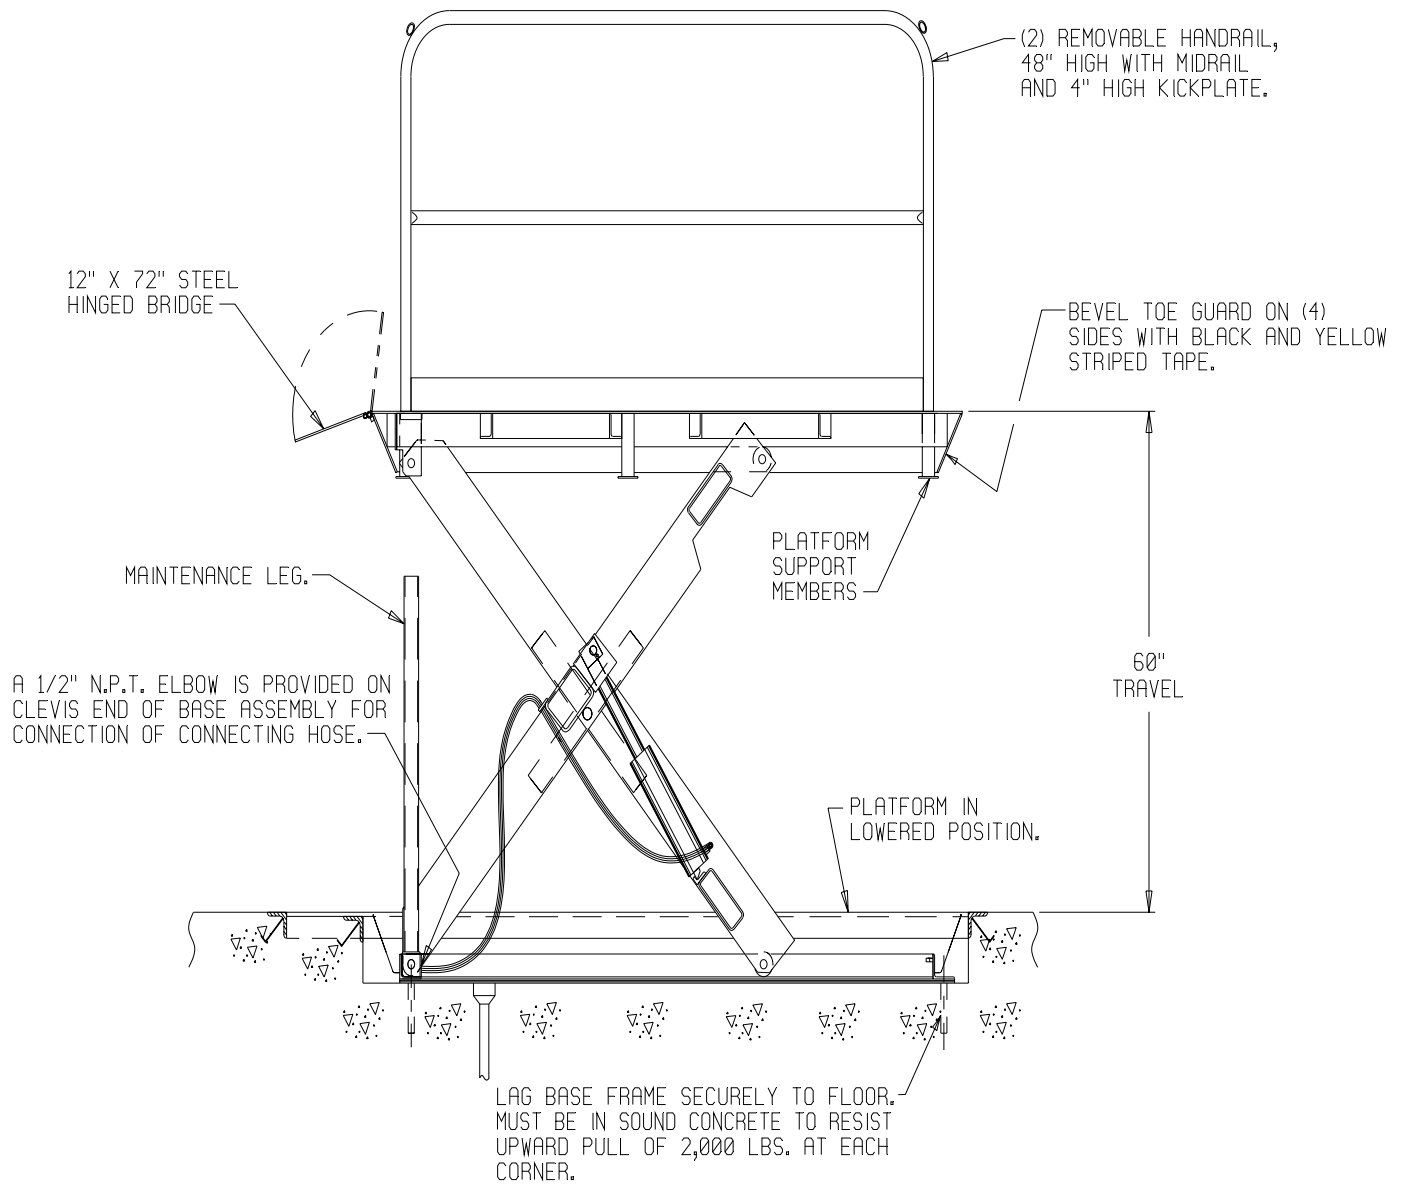

Figure 10 Maintenance Leg
3. Remove the maintenance leg from its storage location on the clevis end of the lift - either under the platform or between the legs. Place one end of the maintenance leg in the socket on the base frame of the lift (See Figure 10).